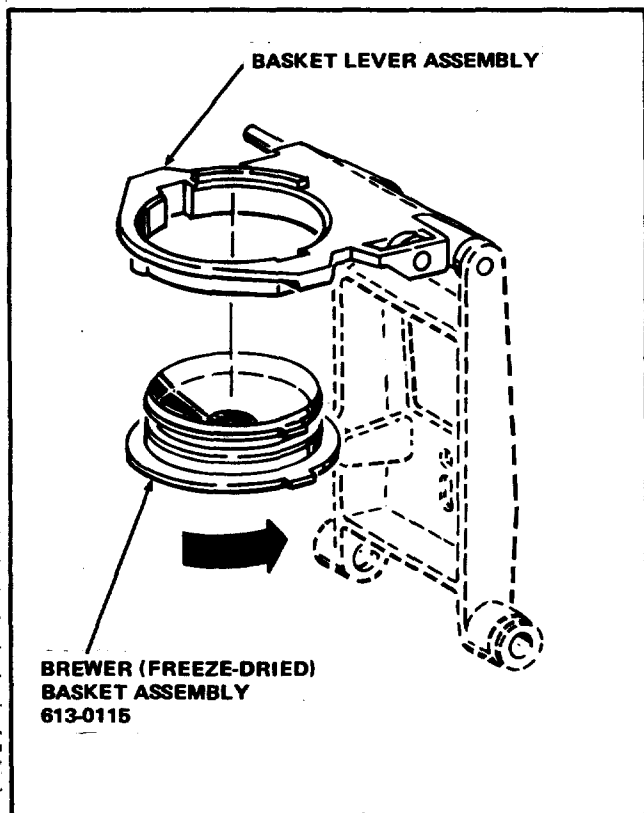

FIGURE 10
1. Install the replacement Brewer (Freeze-Dried) Basket Assembly, Part Number 613-0115, included in the Kit, by placing the Brewer Basket Assembly into the carrier from the underside of the Basket Lever Assembly. Align the ears on the Brewer Basket Assembly with the slots in the Basket Lever Assembly. Rotate the Brewer Basket Assembly counter clockwise one-quarter turn until the Brewer Basket Assembly locks in the Brewer Basket Stop. See Figure 10.